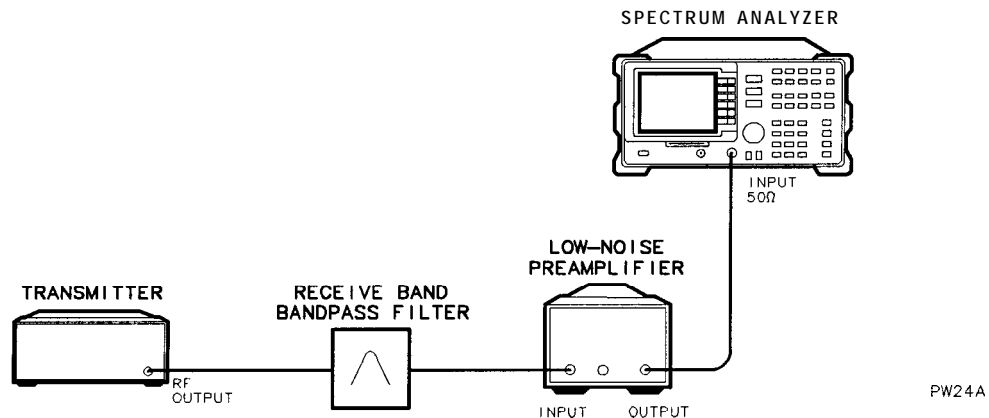

Figure 3-15.
3. Connect the receive-band BPF and the optional amplifier as illustrated in Figure 3-15.